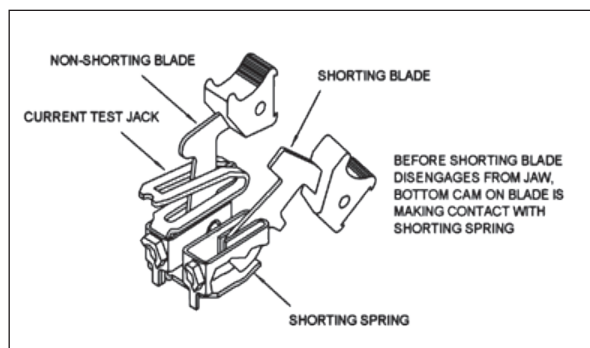

Figure 2. Blade assembly of 2 position pole "C-C" (rear view outside of base)
Potential poles (P) are configured as single, non-shortening knife blades for use in potential, trip, or control circuits. Current poles are typically configured in sets of two (C-C), for use with current circuits, and consist of a current test jack, a shorting spring, a shorting blade, and a non-shortening blade (see Figure 2). The positions of the short circuit springs are always visible from the front of the switch.